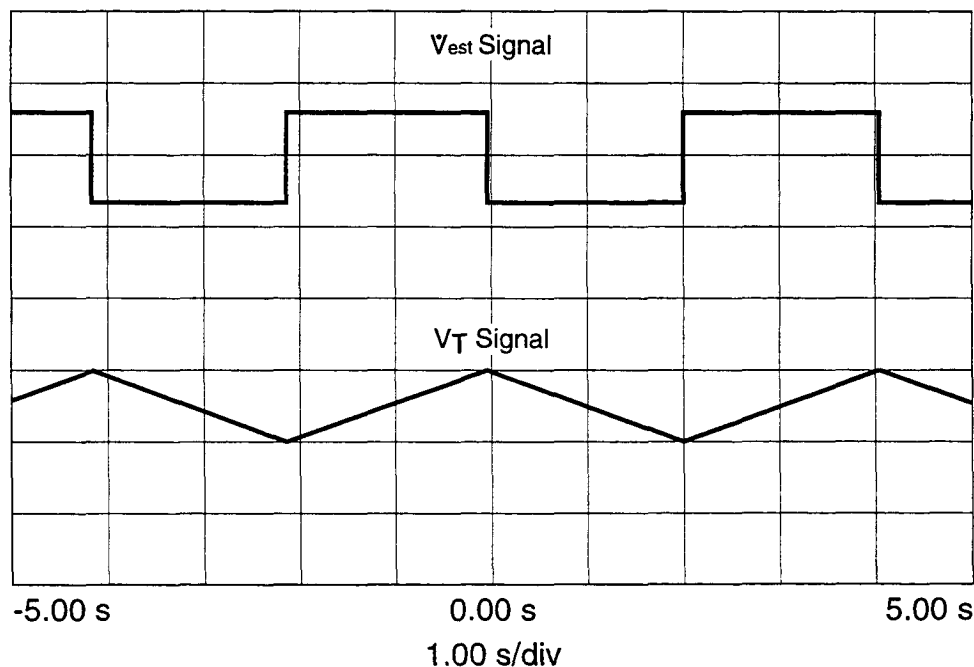

Figure 7-14. Calibration Signals.
Step 2 When a steady state is attained in approximately 20 seconds,  $V_{est}$  should be a square wave of +0.5V to -0.5V amplitude, 50% duty cycle, 4 sec. period;  $V_T$  should be a triangle wave of  $0.5 V_{pp}$  with 50% duty cycle and 4 sec. period. See Figure 7-14.